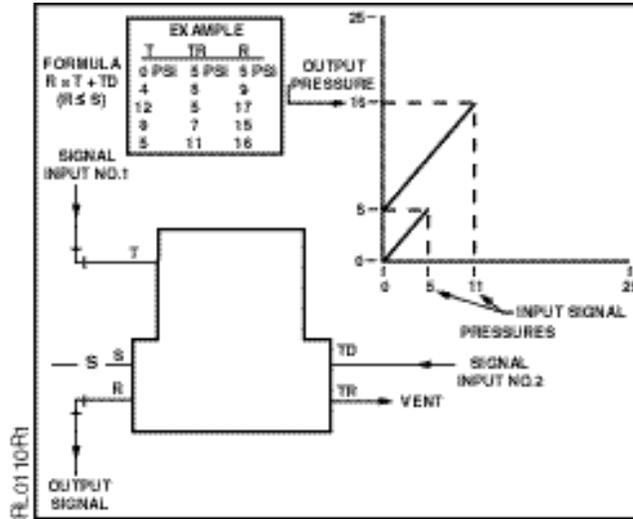

Figure 5.
- Summing relay (sum of two inputs) or advancing relay with remote adjustment of advance. See Figure 5.